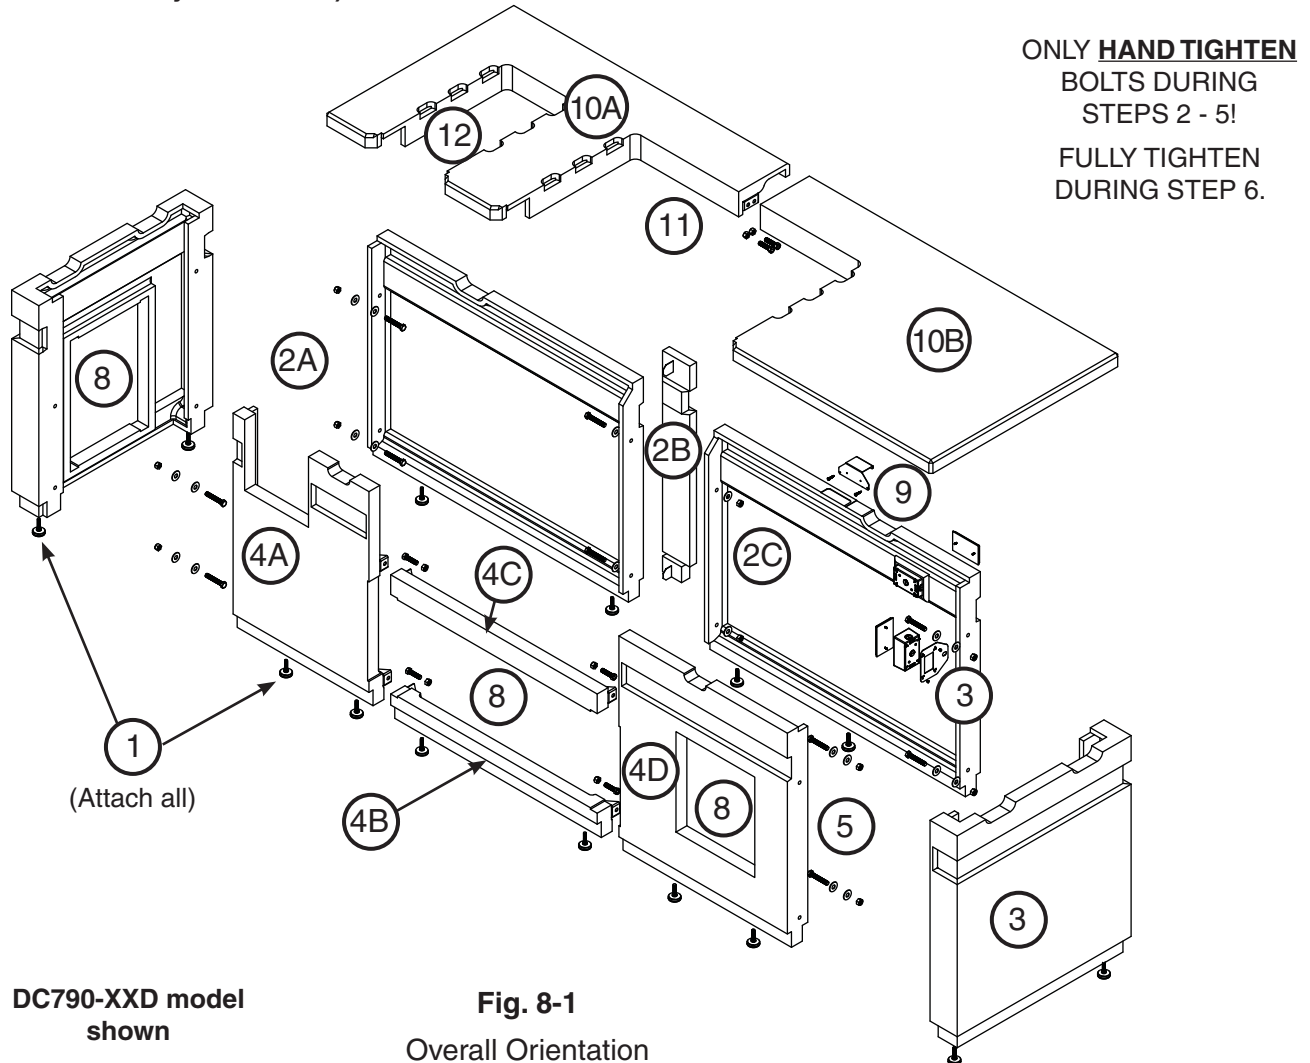

Fig. 8-1
- Fig. 8-1 provides an overall orientation and bolt assembly detail for the island with double drawers. (DC790 model shown. Assembly may slightly vary depending on island selected.)